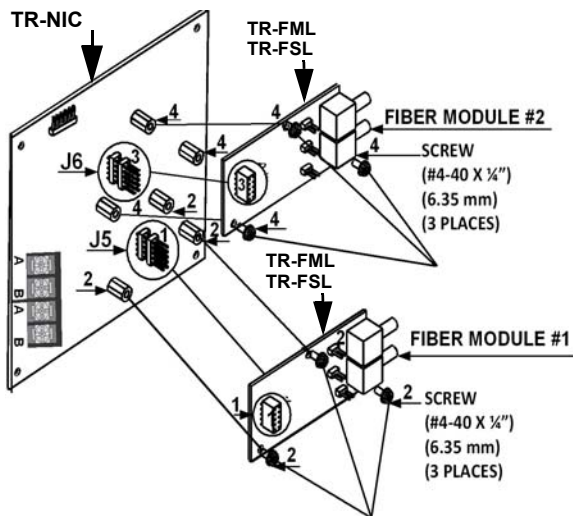
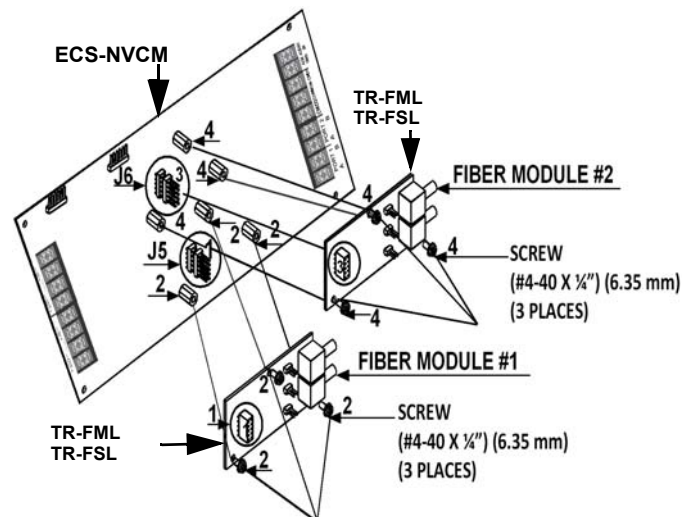

Figure 3 TR-FML Installation
Figure 4 TR-FSL Installation
4. Plug the Fiber Module #1 into P6 of the ECS-NVCM or TR-NIC circuit as shown in Location 1 in Figure 3 and Figure 4.
5. To connect the Fiber Module #1 to the ECS-NVCM or TR-NIC, insert and secure three screws (#4-40 x 1/4" (.635 cm)) as shown in Location 2 in Figure 3 and Figure 4.
6. Plug the Fiber Module #1 into P5 of the ECS-NVCM or TR-NIC circuit as shown in Location 3 in Figure 3 and Figure 4.
7. To connect the Fiber Module #1 to the ECS-NVCM or TR-NIC, insert and secure three screws (#4-40 x 1/4" (.635 cm)) as shown in Location 4 in Figure 3 and Figure 4.
Figure 3 illustrates the TR-FML/TR-FSL installed to the TR-NIC.
Figure 4 illustrates the TR-FML/TR-FSL installed to the ECS-NVCM.